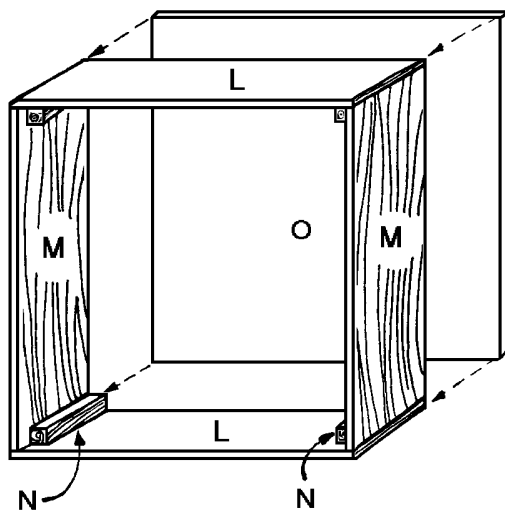
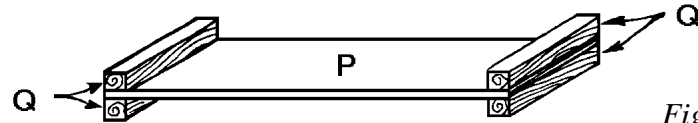

Figure 9
Figure 10
6. Place the two Side Housing pieces (M) between the two Top and Bottom Housing pieces (L). Glue and screw the Top and Bottom Housing pieces (L) to the Corner Supports (N) at all four corners. You should now have a box measuring 36-1/2 inches wide and 39 inches tall (outside measurements) as shown in Figure 9.
7. Cut one 36-1/2" x 39" Housing Back (O) from 3/4-inch plywood.
8. Fit the Housing Back (O) over the exposed edges of the housing assembly and glue and screw it in place, as shown in Figure 9, using 1-1/4"-long screws.
9. Cut one 18-1/4" x 37-1/2" Center Divider (P) from 3/4-inch-thick plywood.
10. Cut four Center Divider Supports (Q) from 2 x 2 pine, each measuring 18-1/4" long.
11. With 2"-long screws, glue and screw all four Center Divider Supports (Q) to both sides of the Center Divider (P) along the 18-1/4-inch edges, as shown in *Figure 10*.